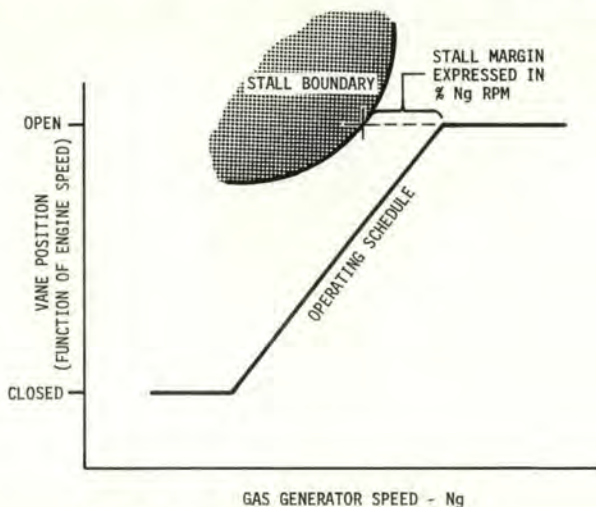

FIGURE 2
1. Conduct stall margin checks on all T-58 engines after JEIM repair. This check is performed by locking the variable stator vanes at a specified position and decreasing N_g speed slowly until the authorized limit is met or a stall occurs. See Figure 2.